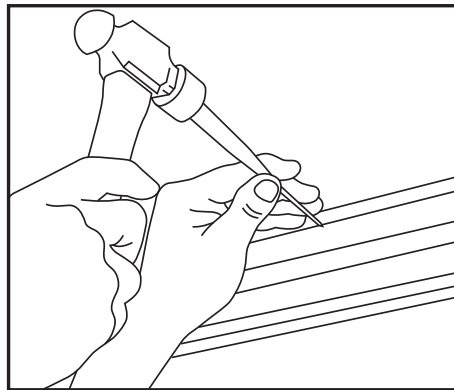

Fig.3
2. Using a metal punch, indent the marks just made to create a dimple to center the drill bit and keep it from wandering **(Fig.3)**.